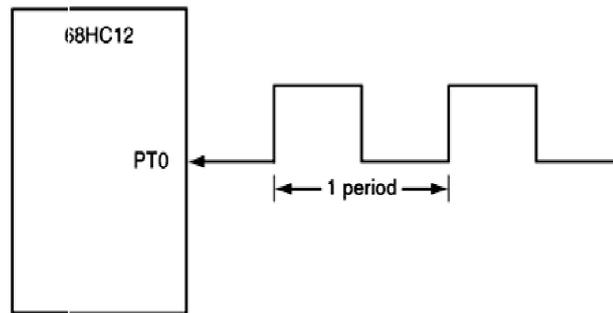

Figure 1. Period measurement signal connection.
The circuit connection for the period measurement is shown in Figure 1. Give the logic flowchart, and write an assembly program for the period measurement. (Capture the timer values corresponding to two consecutive rising edges).
1. Connect PT0 to a digital-waveform generator as shown in figure 1. Set its frequency to a random value; then, load the program of part I to measure the period of the sensed signal and post its value on PORTB.